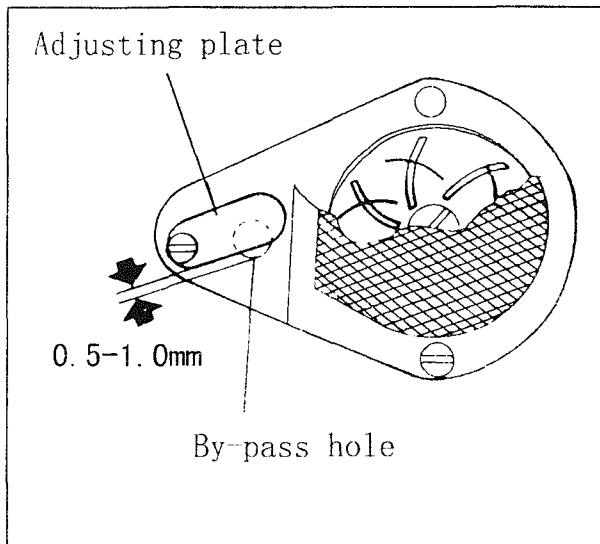

Fig. 30
22. LUBRICATION ADJUSTMENT (Fig.30,31)